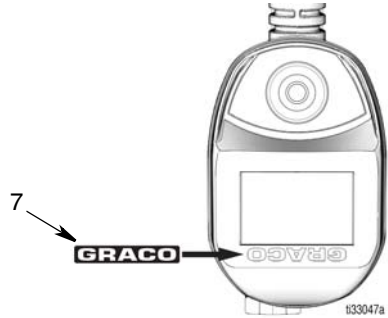

FIG. 4
4. Install Graco identification label (7) over the existing GRACO identification label in the orientation shown in FIG. 4.